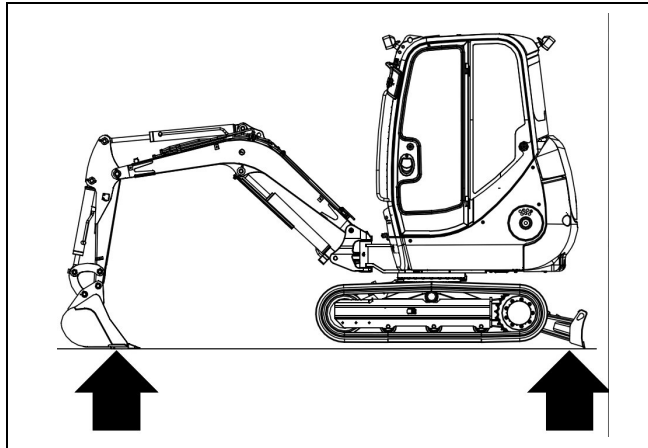

Figure 4-30 – Lifting Machine for Track Tension Adjustment
2. Use the bucket and dozer blade to lift the unit up until the tracks are just clear of the ground (Figure 4-30). Turn off the engine.